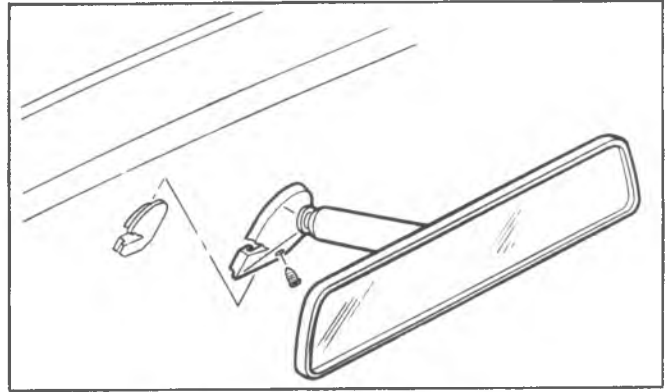

Fig. 2D-11-Inside Rear View Mirror
**COWL VENT VALVE - FIGURE 2D-12**